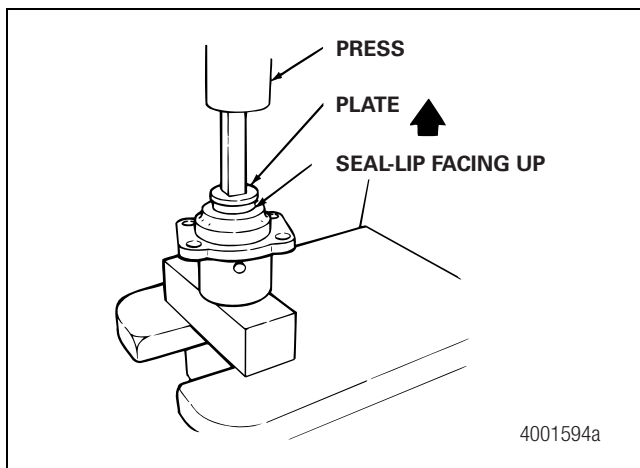

Figure 7.8
1. Position a new seal over the bore at the end of the camshaft cap that has a flange. The seal lips must be away from the camshaft cap. Use a press and a steel plate to press the seal into the bore. Press the seal unit until it is even with the end of the bore. Figure 7.8.